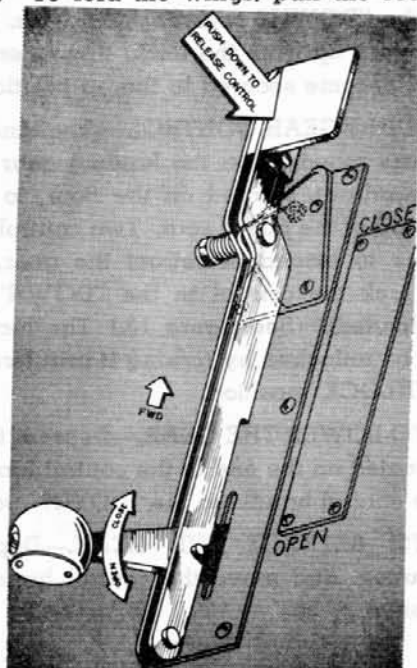

Figure 37 — Bomb Bay Door Control
h. **BOMB BAY DOOR CONTROL.**—The bomb bay door handle is located on the pilot's floor, to the left and forward of the seat (see figure 37). The control is moved aft to open the doors and forward to close them. For emergency operation, refer to Section IV paragraph 3.